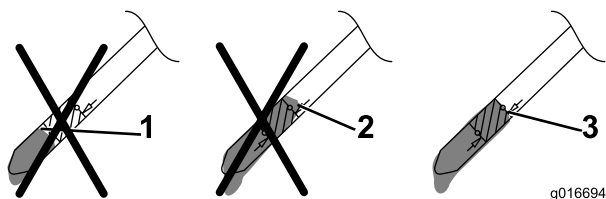

Figure 13
- Remove the dipstick and read the oil level; refer to Figure 13.